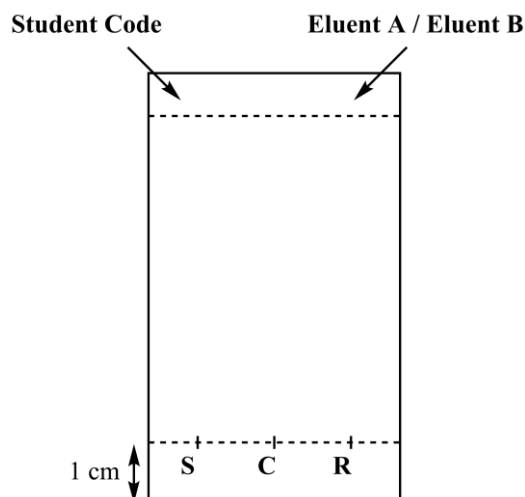

Figure 3. TLC plate preparation
- Prepare your TLC plate.** Use a pencil to carefully **draw** the start line (1 cm above the bottom of the plate) and **mark** the positions in order to spot the 3 samples. **Label** them **S** (Starting material), **C** (Crude product) and **R** (Recrystallized product), as described in Figure 3. On the top left of the plate, **write** your **Student Code**. On the top right of the plate, **write** the eluent you use (first **Eluent A**, then **Eluent B**). **Spot** the three samples on the plate, by using the capillary spotters found in the Petri-dish.